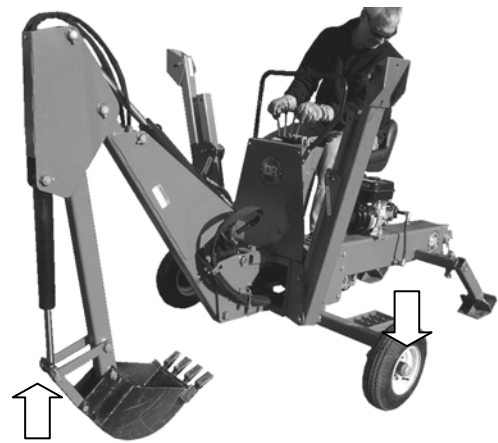

Figure 23
6. Start the Backhoe Engine and raise the Boom to lower the Backhoe onto the Wheels (**Figure 23**).